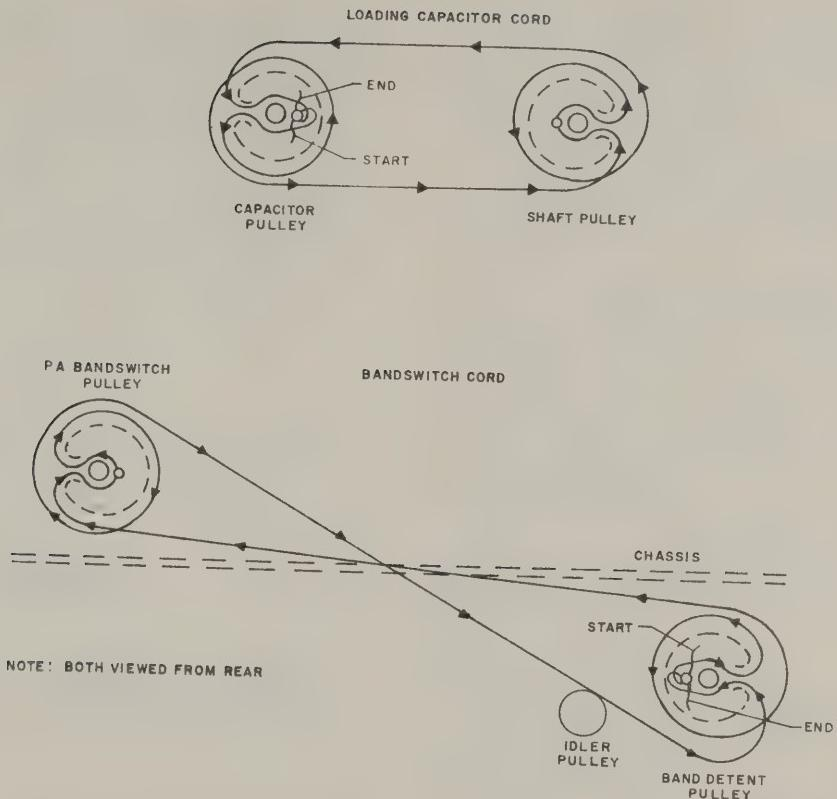

Figure 4-3. Dial Cord Stringing Diagram
d. String the cord according to the appropriate part of figure 4-3. Make sure the cord turns do not overlap on the pulleys. Pull the cord tight, and tie to the tab. Make sure a short piece of spaghetti is slipped over the plastic covered cord so that it acts as extra
4.7 Dial Cord Replacement. (Refer to figure 4-3.)
- d. String the cord according to the appropriate part of figure 4-3. Make sure the cord turns do not overlap on the pulleys. Pull the cord tight, and tie to the tab. Make sure a short piece of spaghetti is slipped over the plastic covered cord so that it acts as extra insulation under the tab. This prevents rf currents from melting the plastic and shorting the wire core to ground. Mash the tab down to clamp the cord securely. Tighten the idler to bring the cord to tension.
f. Set BAND switch to 3.6 and tuning dial to 100. Adjust MIC GAIN and EXCITER TUNING for midscale grid current. Set METER switch to P.A. PLATE, and dip plate current. Reset METER switch to P.A. GRID. Peak the four (A)3.5 trimmer capacitors C101, C41, C52, and C69 for maximum grid current.